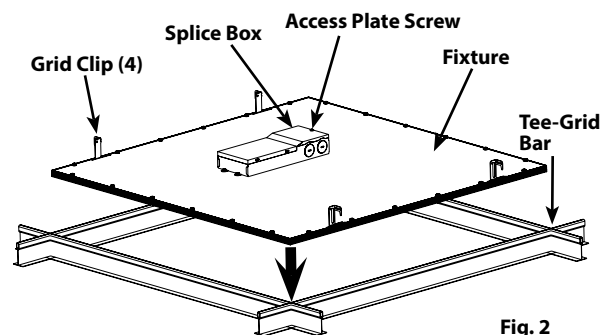

Fig. 2
2. Rotate and slide the **Fixture** as required to fit through the **Tee-Grid Bar** and place it as indicated by the directional arrow as shown in Fig. 2. Secure the **Fixture** to the **Tee-Grid Bar**.